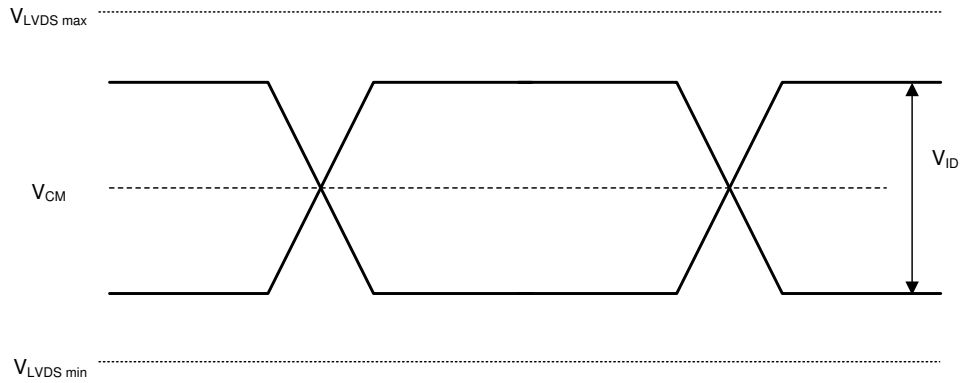

Figure 6-5. LVDS Waveform Parameters
- (1) All voltages are referenced to common ground V_{SS}. V_{DD}, V_{DDI}, V_{CC2} power supplies are all required for proper DMD operation. V_{SS} must also be connected.
- (2) V_{CC2} supply transients must fall within specified max voltages.
- (3) To prevent excess current, the supply voltage delta |V_{DDI} - V_{DD}| must be less than the specified limit. See the DMD Power Supply Requirements.
- (4) PWRDNZ input pin resets the SCP and disables the LVDS receivers. PWRDNZ input pin overrides SCPENZ input pin and tri-states the SCPDO output pin.
- (5) See LVDS clock timing requirements in Timing Requirements.
- (6) See Figure 6-5 for the LVDS Waveform Requirements.
- (7) Simultaneous exposure of the DMD to the maximum Recommend Operating Conditions for temperature and UV illumination reduces device lifetime.